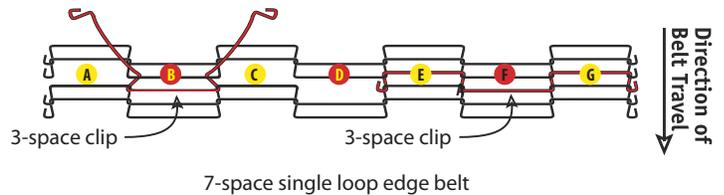

Figure 7
1. Bend the clip in the center and insert the two ends into the two spaces next to the center space (spaces A and C on Figure 7).